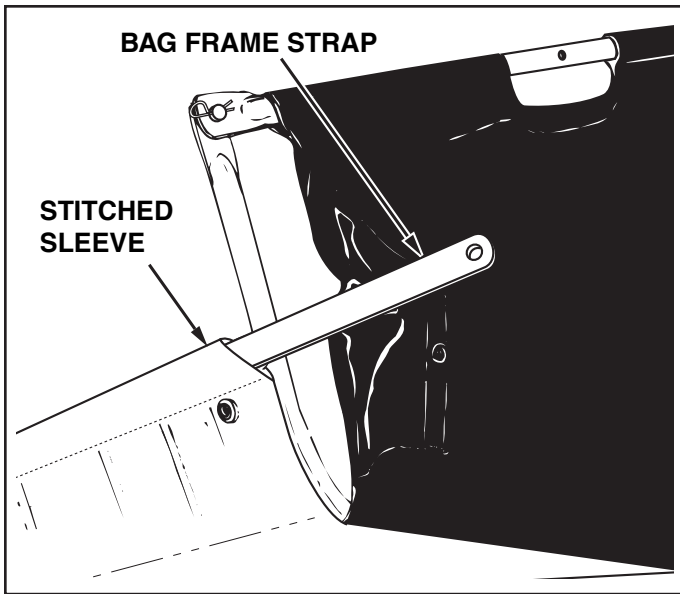

FIGURE 14
- Insert the bag frame strap into the stitched sleeve at the front edge of the bag bottom. See figure 14.